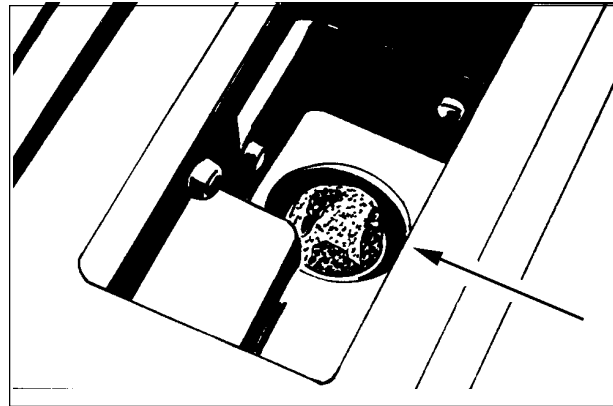

Figure 9
10. Inspect and clean the filter screen in the bottom of the solution tank. See figure 9. To remove the